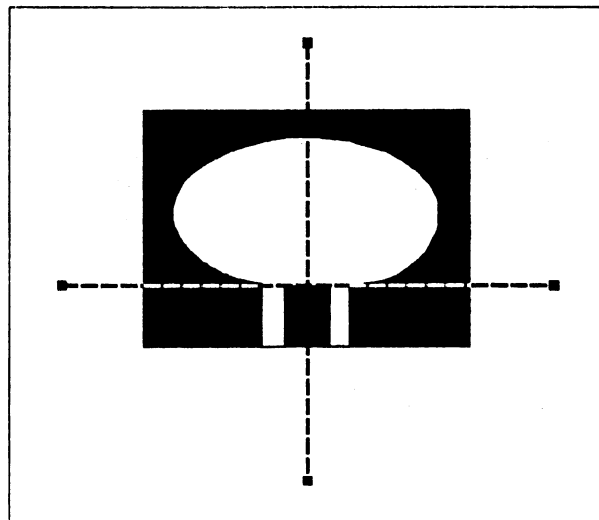

Fig 2-4. Sight alignment for 800 to 1800 meters.
- (2) 800 to 1800 meters. Figure 2-4 shows the proper sight picture you should have when using the sight in the 800-to-1800-meter position. In this position, notice the cross hairs centered in the sight.